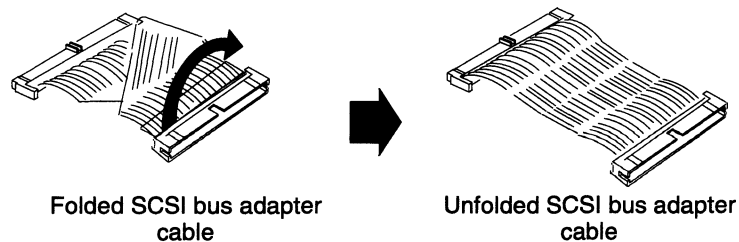

Figure 7 Unfolding the SCSI bus adapter cable (005-035005) to make an extender cable
- ▶ If the computer's SCSI bus cable does not reach the drive's connector, unfold an optional SCSI bus adapter cable, 005-035005, to make an extender cable (Figure 7). Connect the unfolded adapter cable between the SCSI bus cable and the drive.